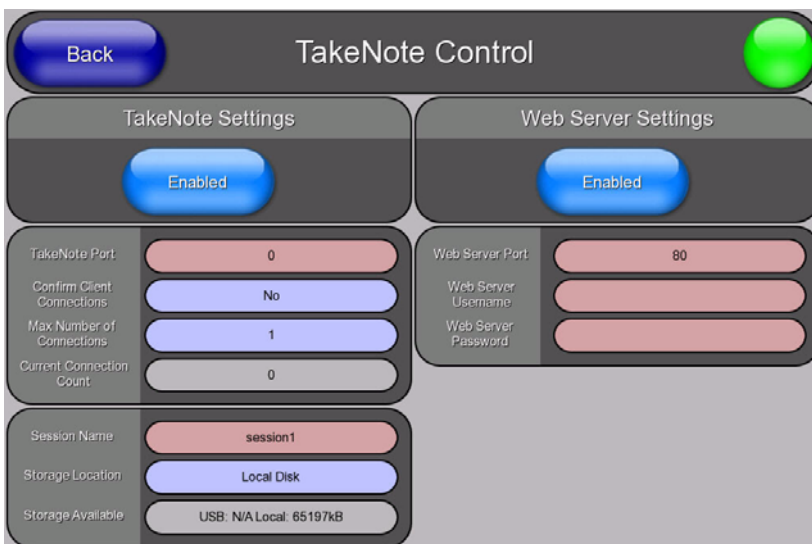

FIG. 113 TakeNote Control page - Web Server Enabled
1. Verify that the Web Server is enabled in the TakeNote Control page, as shown in FIG. 113.